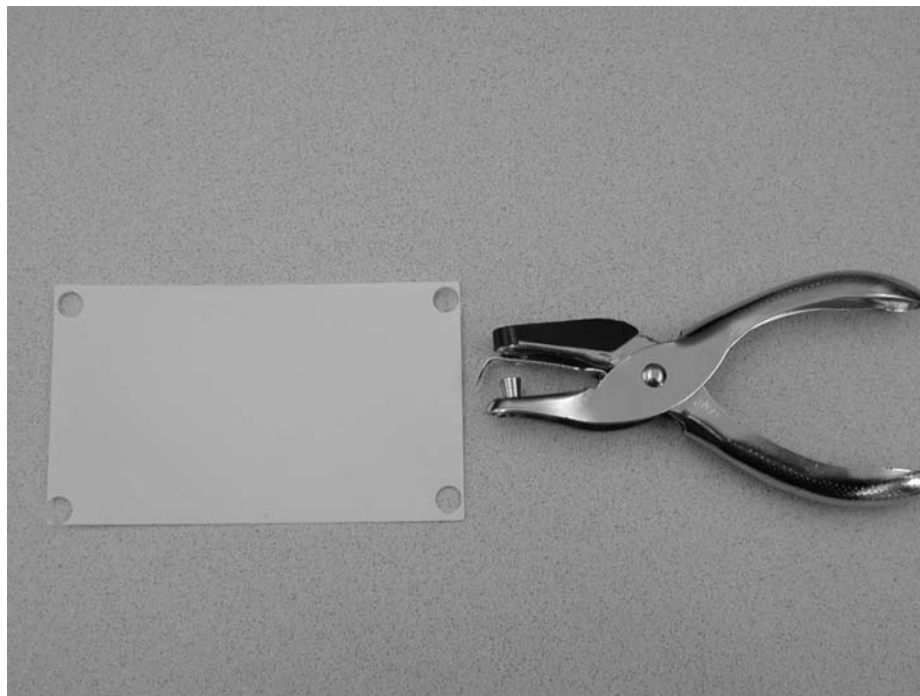

Figure 4. ESD Protector with holes enlarged.
- Enlarge the holes on the plastic protector using a hole punch (Figure 4).
- Re-insert the plastic protector if a hole punch was used to enlarge the holes (Figure 4). The protector should now lay flat on the chassis base.